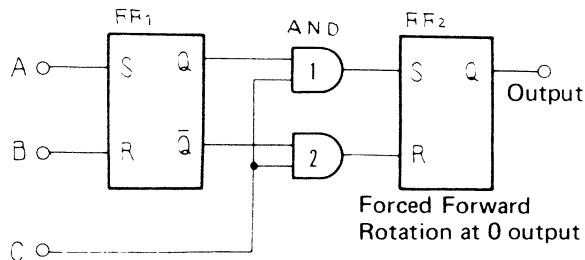

Fig. 21
5. This Reverse Rotation Prevention circuit consists of two flip-flops and AND gates See Fig. 21.